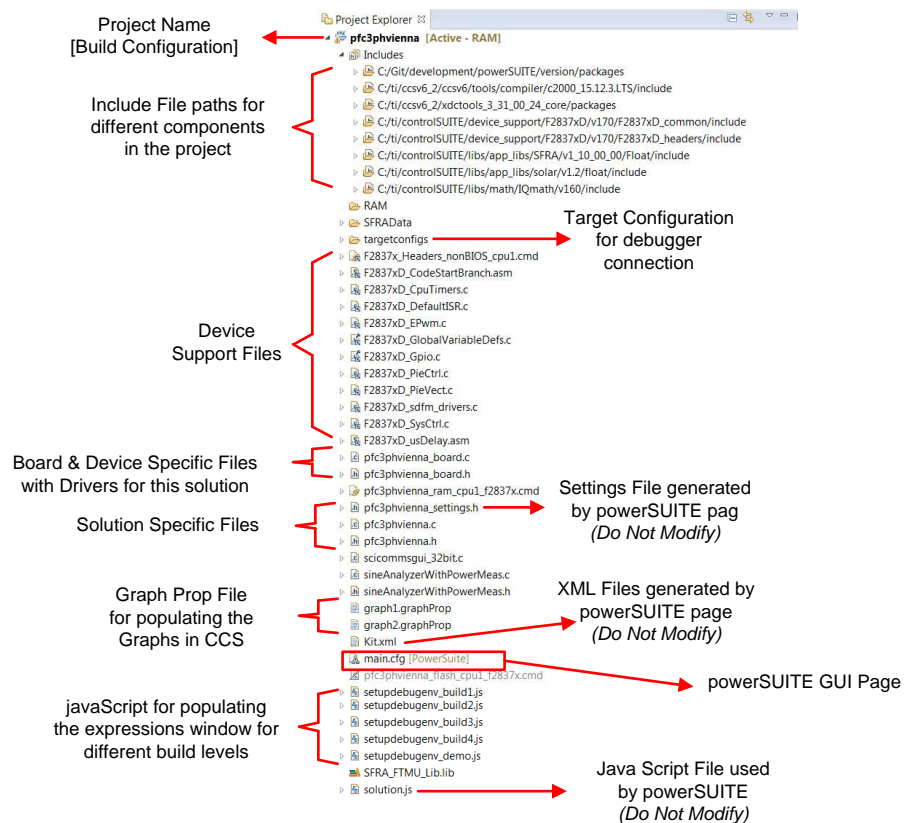

Figure 19. Project Explorer View of Solution Project
Once the project is imported, the project explorer will appear inside CCS as shown in Figure 19.
3. In the *Project Explorer* make sure the correct target configuration file is set as Active under *targetconfigs* (Figure 19).